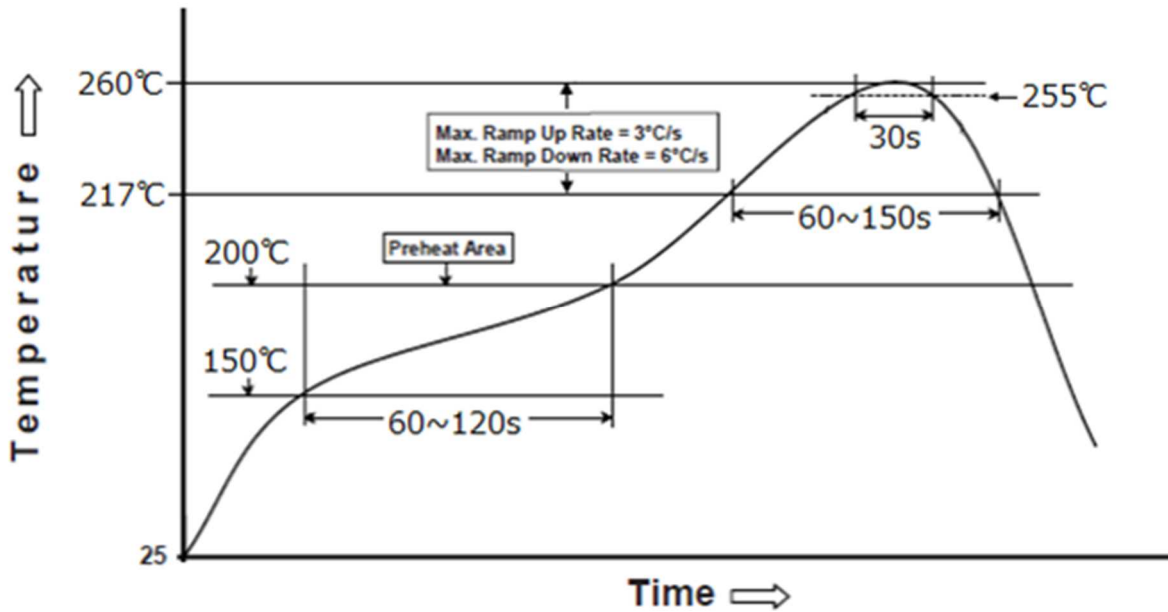

Fig. 2 Reflow Temperature Profile
① Reflow part 533K ( $260^\circ\text{C}$ ) Peak 528K ( $255^\circ\text{C}$ ) 30sec. 490K ( $217^\circ\text{C}$ ) MIN. 60~150sec.	< Soldering iron> Temperature of soldering iron: $663 \pm 10$ K ( $390 \pm 10^\circ\text{C}$ ) Heating time: $3.0 \pm 0.5$ sec. Heating times: twice
② Pre-heat part 423~473K ( $150 \sim 200^\circ\text{C}$ ) 60~120sec. Reflow temperature profile Fig.2. The number of times of Reflow is within 2.